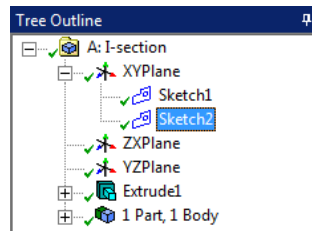

Figure 3-38 The Tree Outline with **Sketch2** added to it
2. Choose the **New Sketch** tool from the **ActivePlane/Sketch** toolbar; the new entry with the name **Sketch2** is added under the **XYPlane** node in the Tree Outline, refer to Figure 3-38.